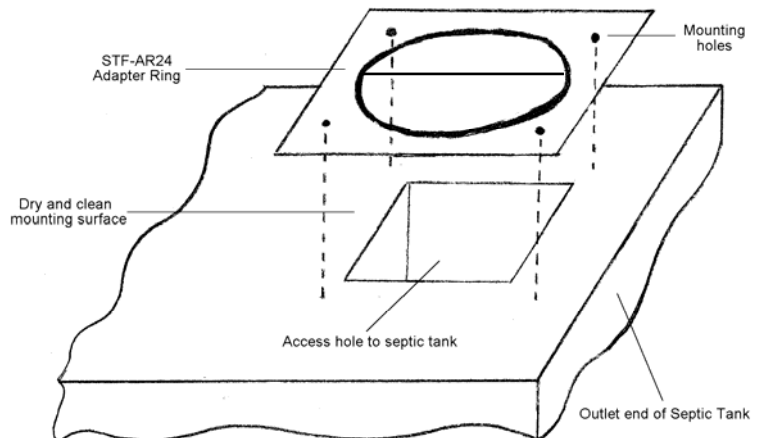

Figure 1.2
1. If using the STF-AR24 Adapter Ring, clean and dry mounting surfaces on both tank and adapter ring (refer to Figure 1.2).